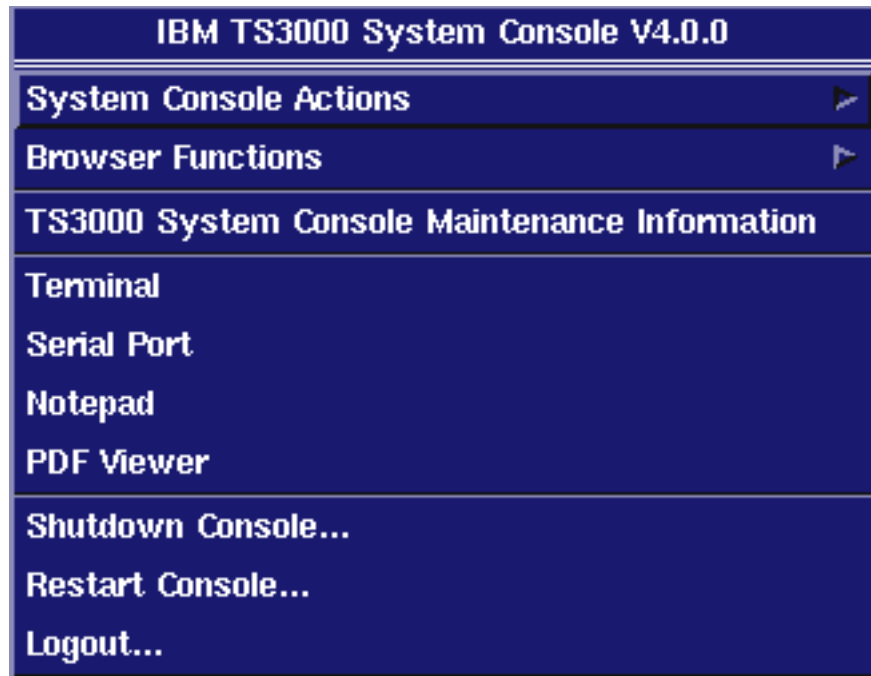

Figure 2-110. Serial Port Selection on System Console Screen
1. After logging in to the System Console, from the System Console desktop, right click on the desktop to see Figure 2-110 on page 2-79.